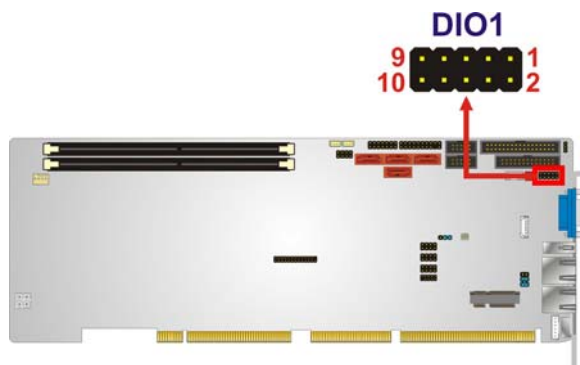

Figure 3-7: Digital I/O Connector Location
- CN Location:** See Figure 3-7